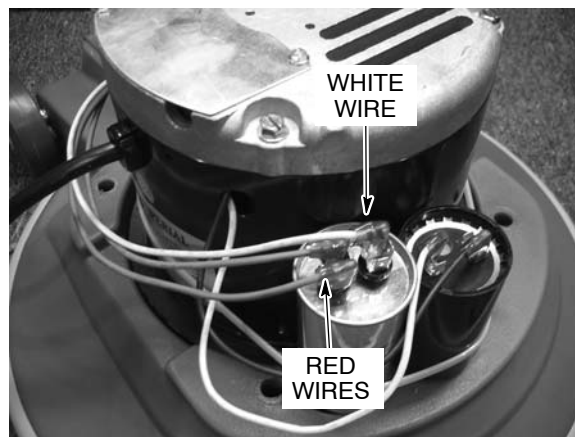

Fig. 3
3. Attach the red and white wires coming from the back of the motor to the silver (run) capacitor (Figure 3).